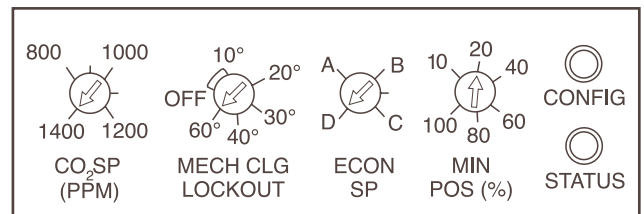

Fig. 9 — EconoMiSer Control Adjustment Potentiometers
2. Locate the CO2 SP (PPM) potentiometer and adjust to the desired set point. See Fig. 9.
**Mechanical Cooling Lockout** — Determine the outdoor-air temperature at which you want the mechanical cooling (compressors) to be disabled. Locate the mechanical cooling lockout (MECH CLG LOCKOUT) potentiometer. To disable this feature, turn the potentiometer counterclockwise (CCW) to the OFF position. Otherwise, set the value between 10 and 60 F. Mechanical cooling will not operate when the outdoor air temperature is below this value. See Fig. 9.
**Enthalpy, Dry Bulb, and Differential Changeover Set Up** — Determine the enthalpy changeover set point from Table 1. The settings are A, B, C and D. Locate the ECON SP potentiometer and set the enthalpy changeover set point. See Fig. 9. When the OAT is above this set point, the damper is limited to minimum position setting.
2. Locate the minimum position (MIN POS) potentiometer. Turn the potentiometer full CCW to fully close the outdoor air dampers. Turn the potentiometer gradually clockwise (CW) to the desired position. See Fig. 9.
**Manual Configuration Pushbutton** — The EconoMi\$er controller also features an onboard button (CONFIG) to help troubleshoot the system. See Fig. 9. The button has 3 functions.